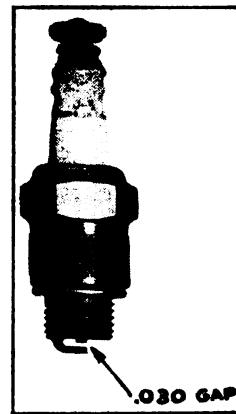

FIG. 9—
a. *Spark Plug*.—If engine fails to start, starts hard or misses, the spark plug may be damaged or dirty. Remove from cylinder head and shield (92), first disconnecting magneto high tension wire (25). Then reattach high tension wire to spark plug and lay plug on the cylinder. Spin motor to check spark. If no spark occurs at the spark plug points, clean out plug or install a new one.
Always use Champion J5 spark plug, or one in equivalent heat range. Point gap should be .030. Make certain gasket (108) is on spark plug when installing in engine. (See Fig. 9, Page 20.)